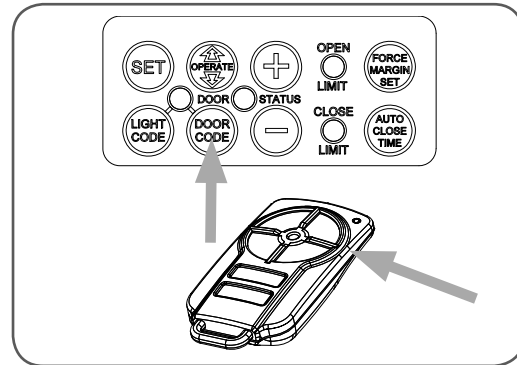

fig 32
- Press and hold the DOOR CODE button (**Fig. 32**).
- Press one of the four buttons on the transmitter for two (2) seconds, pause for two (2) seconds, then press the same button again for two (2) seconds.